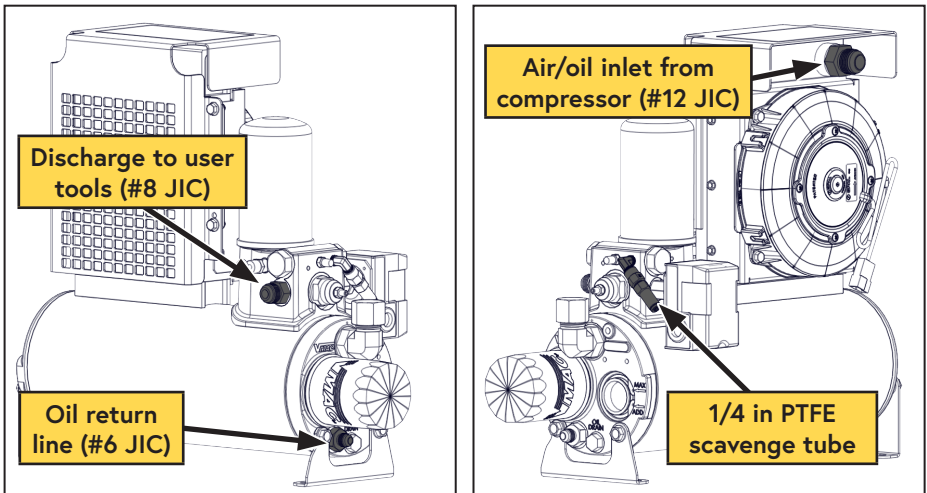

Figure 27 — WHASP Tank connections
## Connecting the Interior Hoses (Figure 27)
- Connect the 90° fitting on the 3/4 in hose to the #12 JIC fitting (air/oil inlet) on the cooler above the fan (Figure 27).
- Connect the 90° fitting on the 3/8 hose to the #6 JIC fitting (oil return fitting) beneath the oil filter on the tank (Figure 27).
- Connect the 1/4 in PTFE tube to the 1/4 in push-to-connect (oil scavenge) fitting near the coalescing filter (Figure 27).